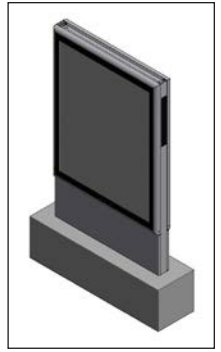

Figure 9: *Final*
10. Replace the base cover into proper place. Push the door firmly to close it. Refer to **Figure 9** to see the display in its final state.